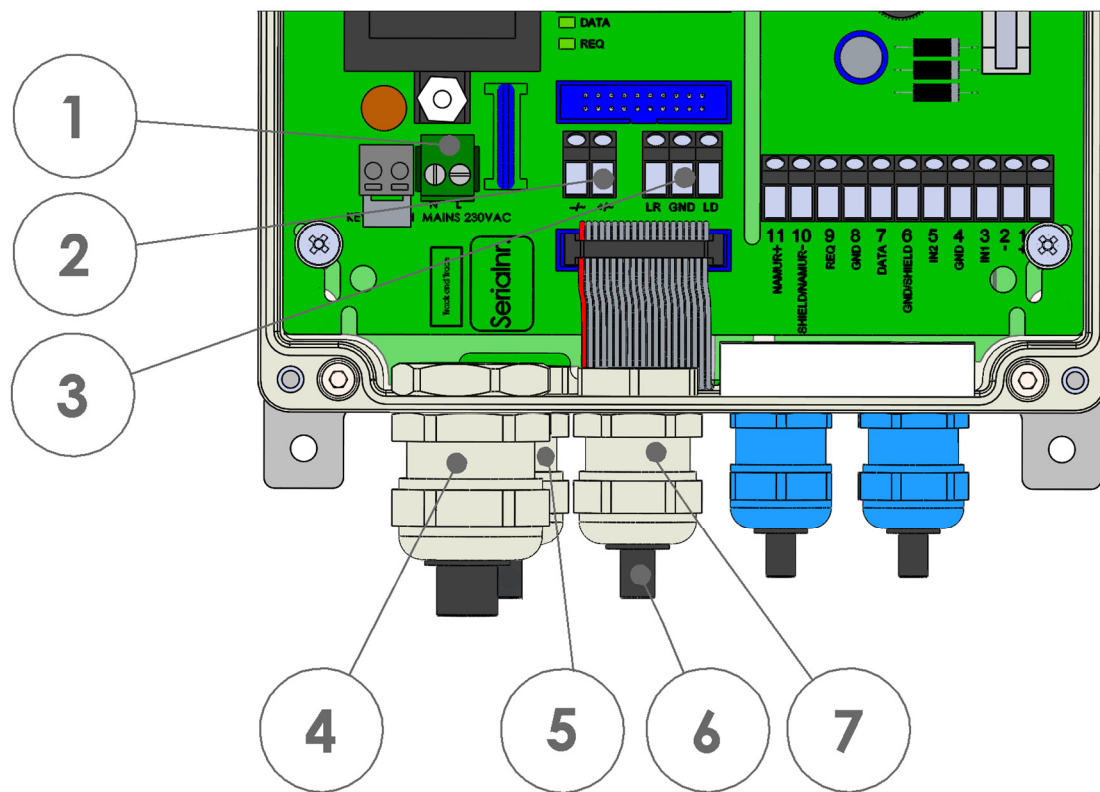

Figure 4. Opened UNILOG 300
- Protection by programming switch: writing is only possible if the programming switch SW2 (pos. 2, Figure 4) is operated during writing. This type of protection can be switched off, see register C.93.24